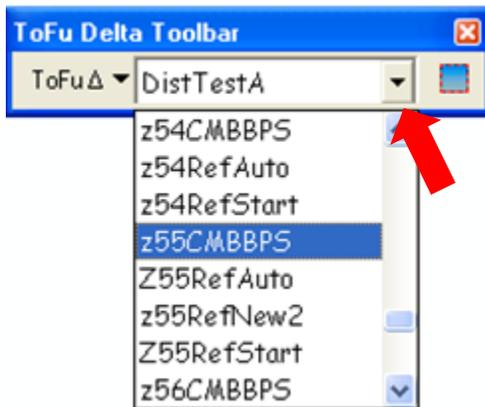

Figure 7-3. ToFuΔ's Management Unit selection drop-down menu.
The second button on the toolbar is the Management Unit selection drop-down menu icon which allows the user to select a management unit (MU) once the project is set up (fig. 7-3). Management units can be as large as a LANDFIRE map zone or as small as an initial fire incident that a user would like to calibrate and analyze.